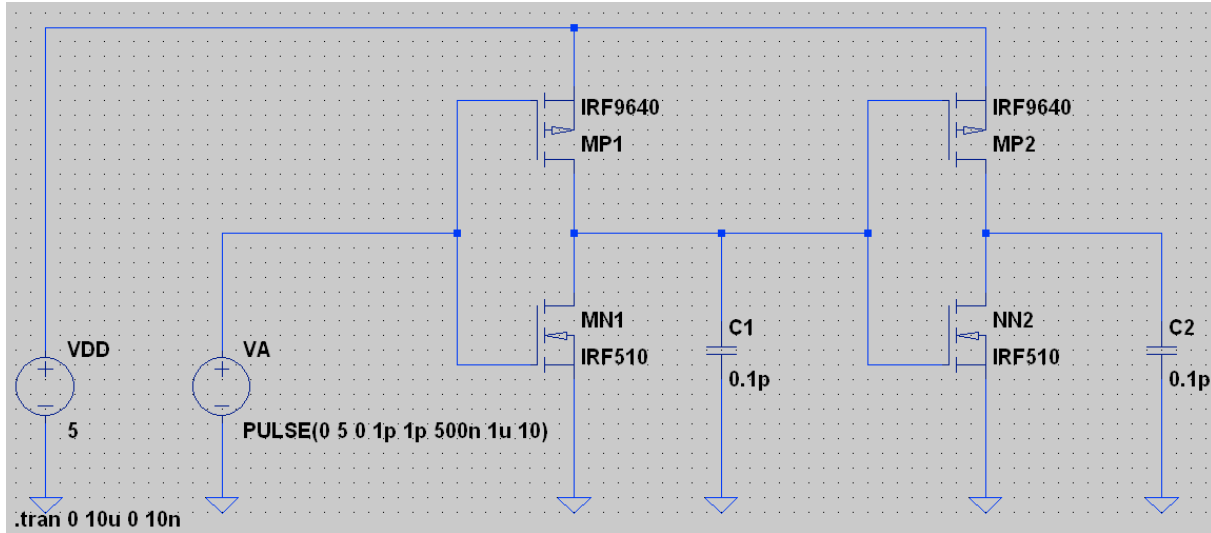

Figure 7: CMOS circuit.
- 4.1. Construct the circuit shown in Figure 7 for a cascade of CMOS inverters. Note that the capacitors C1 and C2 are used to model the parasitic capacitance of the interconnects seen by the output of each gate.